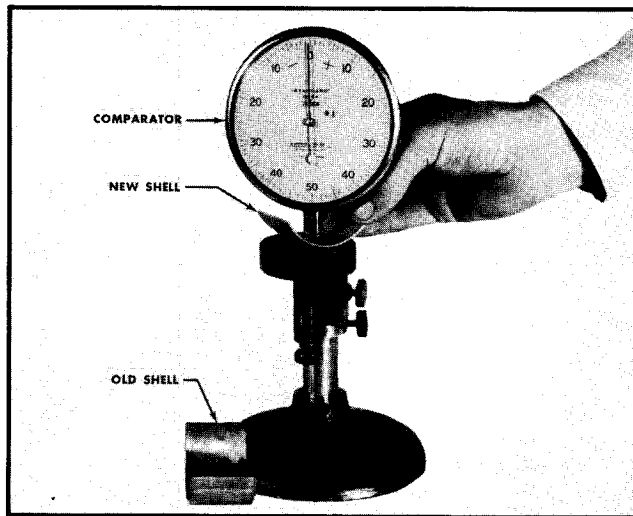

Fig. 2-23. Checking bearing shell thickness
1. Gauge shell with a ball point micrometer, dial indicator thickness gauge or comparator as shown in Fig. 2-23.